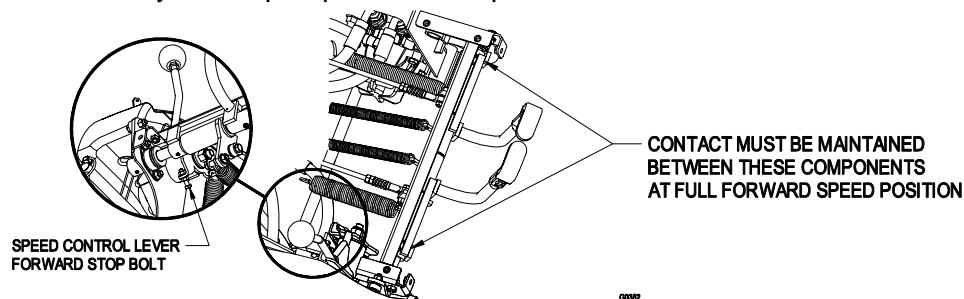

FIGURE 14
- c) If either steering control lever surface does not contact the stop bar at the full forward speed position, adjust the stop bolt until contact occurs. See Figure 14. Once contact occurs, turn the stop bolt one more full turn to prevent bottoming of the hydraulic pump internal stops.